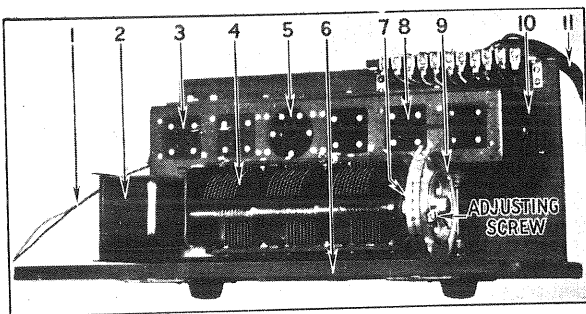

Fig. 3
1. **ADJUSTMENT OF CONDENSER DRIVE CABLE**—Any slack in the condenser drive cable can be taken up by tightening the adjusting screw shown in Fig. 3.